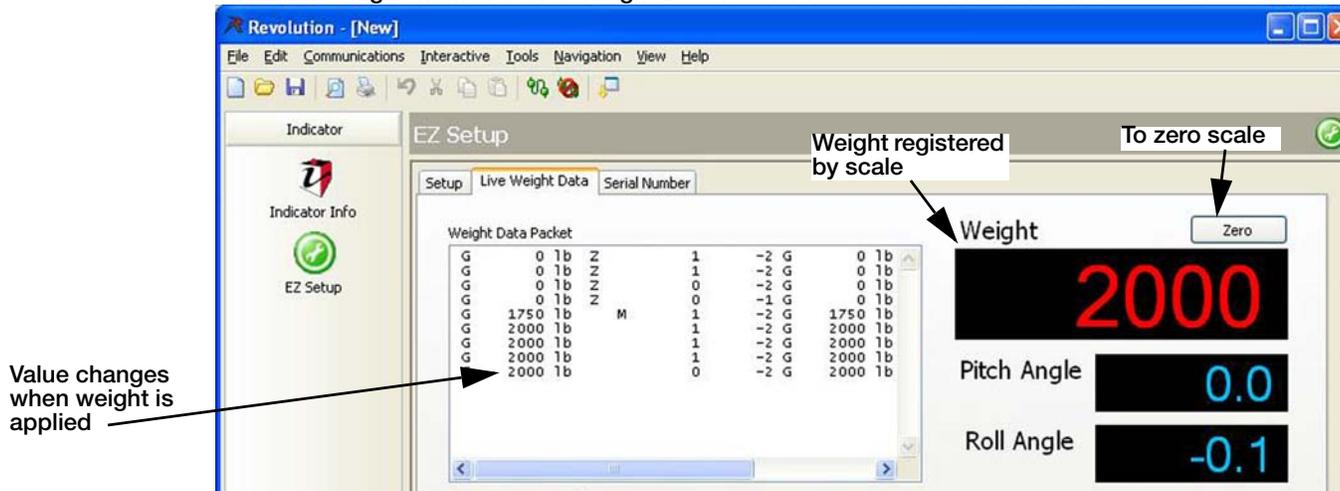

Figure 3-18. Live Data Screen with Weight Applied
4. Verify pitch angle and roll angle is between -0.2 - + 0.2. See Figure 3-18.
10. View the pitch and roll angle settings in **Live Weight Data** screen. See Figure 3-18.